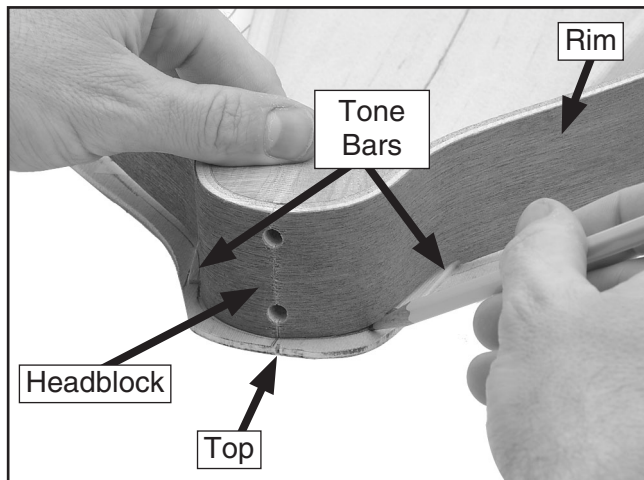

Figure 5. Marking outline of rim onto top.
2. Using a pencil, mark the outside edge of the rim onto the top. This line will identify where the two pieces meet as shown in **Figure 5**.